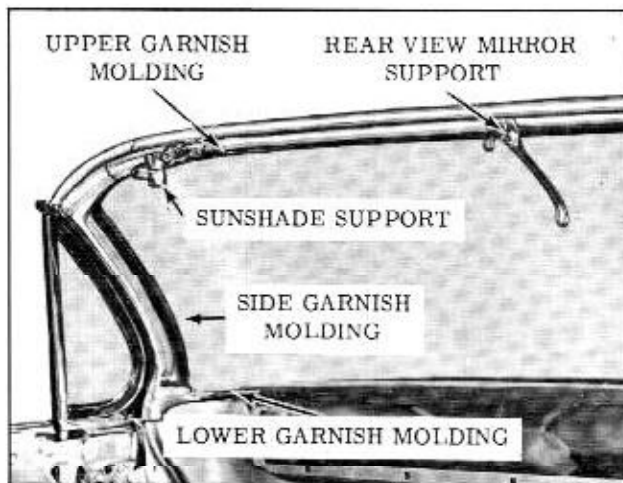

Fig. 17-1 Windshield Garnish Moldings
Removal and Installation (Figs. 17-1 and 17-2)
3. To install, reverse removal procedure. (Figs. 17-1 and 17-2)